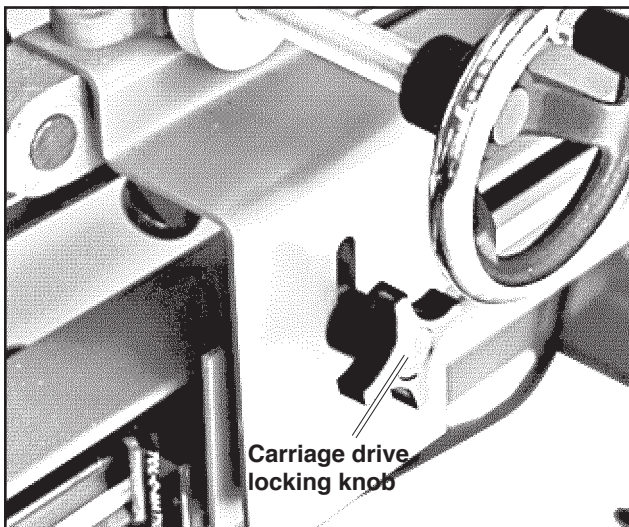

Figure 3.7 Carriage disengagement
3.5.2 Disengage the carriage from the pneumatics (Figure 3.7) and move the carriage to one end of the reel.